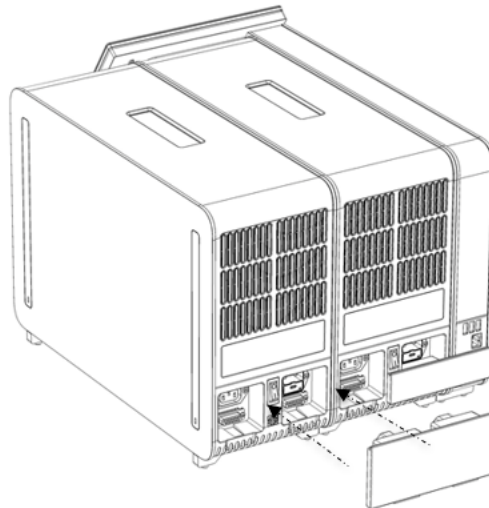

Figure 18. Connecting the Analytical/Analytical Module Bridge.
6. Connect the Analytical/Analytical Module Bridge at the back of QIAstat-Dx Analyzer 2.0 to link the 2 Analytical Modules together (Figure 18).